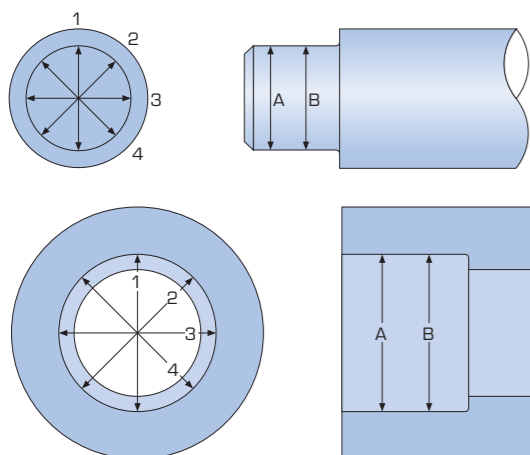

Figure 9.1 Shaft Diameter and Housing Diameter Measurement Locations
- ① Shaft and housing inspection
- ② Unpacking and cleaning
- ③ Assembly
- ④ Post assembly check
- Confirm that the shaft and housing are finished in accordance with the drawings, and check and record dimensions, shoulder squareness, and the corner radius. As shown in Figure 9.1, measure the shaft diameter and housing bore at two locations in the axial direction and four locations radially.